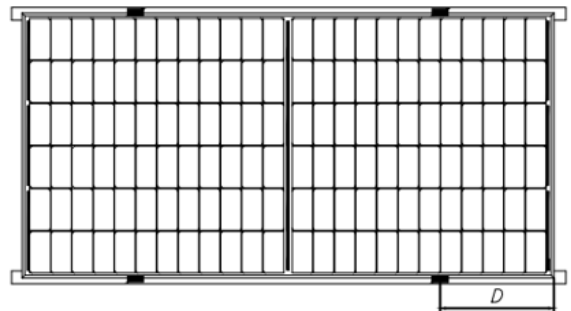

Fig.3 Rails overlapping the long-side frame
When double-sided PV modules are installed, each PV module must be fixed with at least 4 presses, as shown in Figures 3、4、5、6.
⑧ For the mounting shown in Figure 3, the overlap between the C surface of the assembly and the rail should be $\geq 25\text{mm}$. Astronergy's limited warranty will be void if improper clamps or improper installation is used.